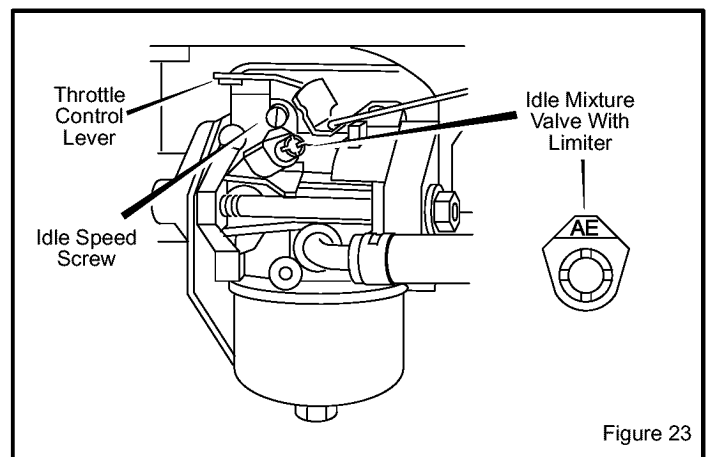

Figure 23
3. Rotate the carburetor **throttle control lever** against the **idle speed screw** and hold it (see Figure 23). Then, turn the **idle speed screw** to obtain 1750 rpm (use a tachometer).